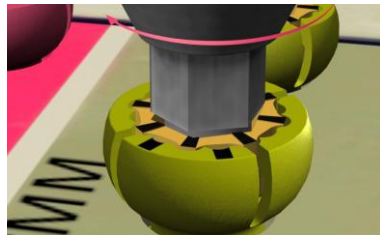
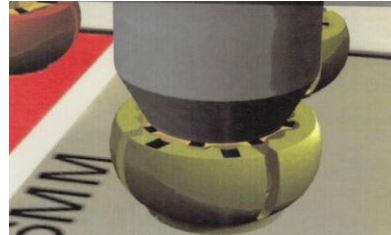

fig. 36a
fig. 36b
- Once fully engaged, use your free hand to engage the locking mechanism into the Bone Screws Locking Cam. This is achieved by lightly pushing down and rotating the 4-pronged wheel (fig.36a) until the hex of this outer locking mechanism is fully engaged into the hex of the Bone Screw Locking Cam (fig. 36b).